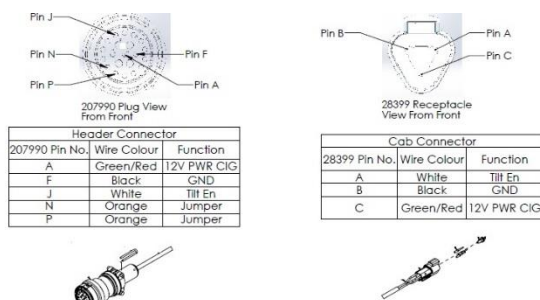

Figure 137
- The display harness Figure 137 and Figure 137